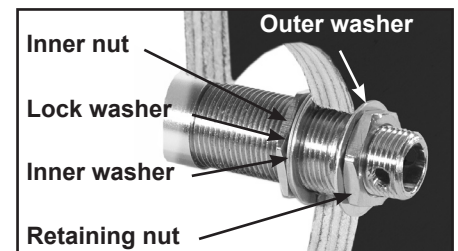

Figure 11c – Jack installation
3. Put the outer washer on the jack followed by the retaining nut (*see figure 11c*). Snug down the retaining nut finger-tight. The jack should be firmly held in place. If the jack is loose in the hole, loosen the retaining nut and adjust the inner nut so that the outer washer and retaining nut can fully seat against the surface of the harp.